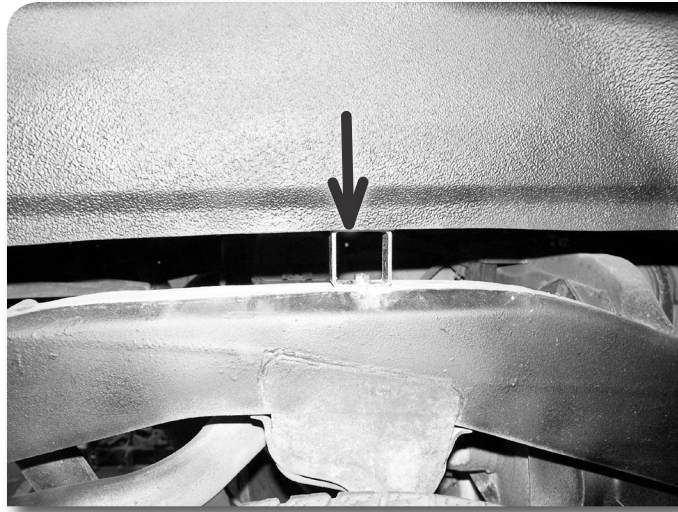

Figure 26
45. Remove the plastic disks from the frame rails where the bed originally rested on the frame. Install the provided metal overload spacers at these points and fasten them to the frame rail with 5/16" x 1" self-tapping bolts in the existing holes in the frame Figure 26.